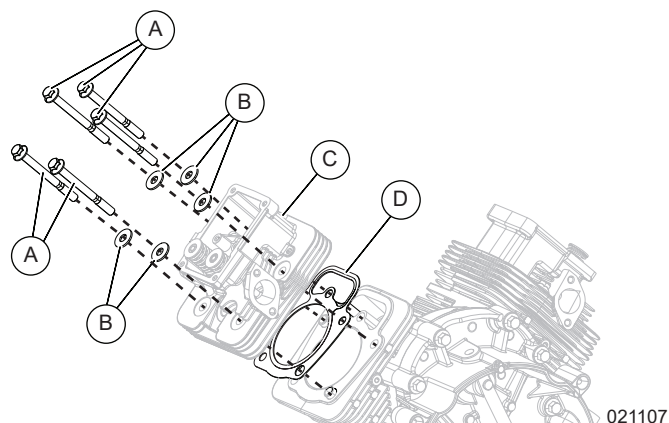

Figure 6-29. Remove Cylinder Head Assembly
1. See Figure 6-29. Remove the five cylinder head bolts (A), washers (B), cylinder head assembly (C), and head gasket (D) from engine long block. Discard head gasket.